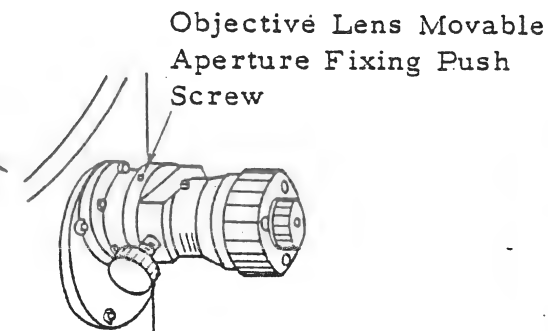

Fig. 10-2 Objective Lens Movable Aperture
- (e) Loosen the setscrews of the objective lens movable aperture, and pull out the aperture slowly. See Fig. 10-2.